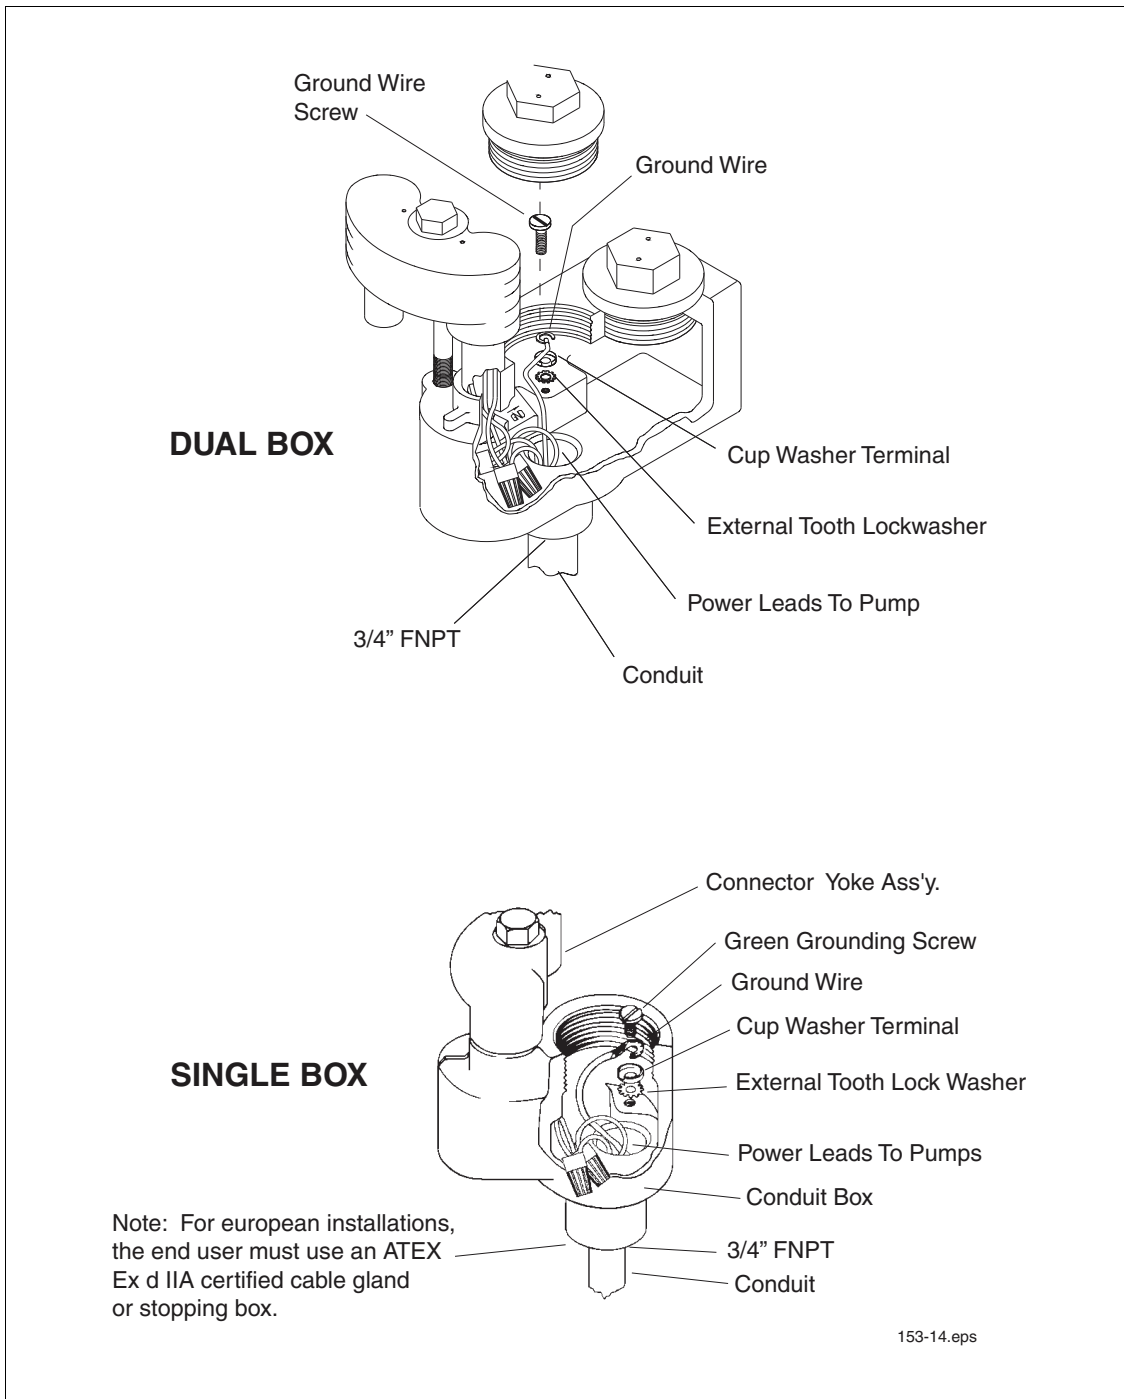

Figure 14. Conduit box wiring
3. Connect wires from power supply to wires in the conduit box. Install ground wire from power panel (see Figure 14) as shown. Thread sealant required on single box.